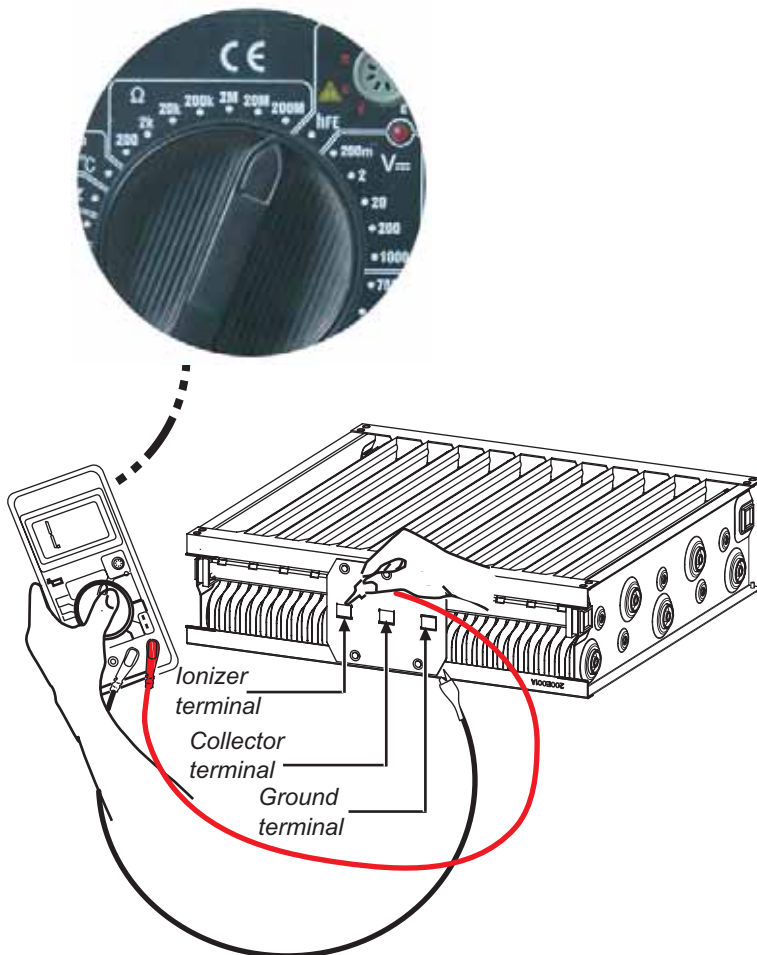

Fig. 5.2.1-6 How to check the cell with ohmmeter for short circuit.
- Place the black on the cell frame (Ground) and red each on the ionizer terminal, collector terminal and ground terminal. It will read 1 or 0.0x. (Fig. 5.2.1-7). See **6.12 REPLACE THE CERAMIC INSULATORS**.